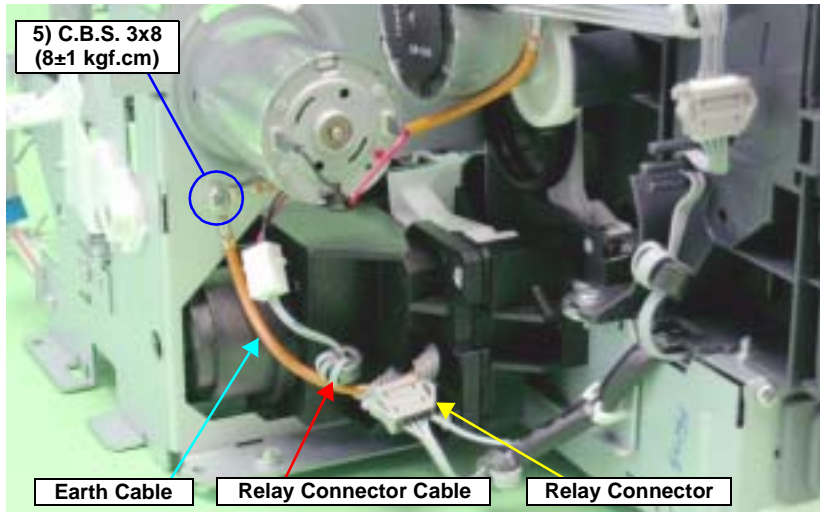

Figure 4-95. Disconnecting the Pump Motor Connector
- Referring to Figure 4-95., correctly route the Relay Connector Cable.